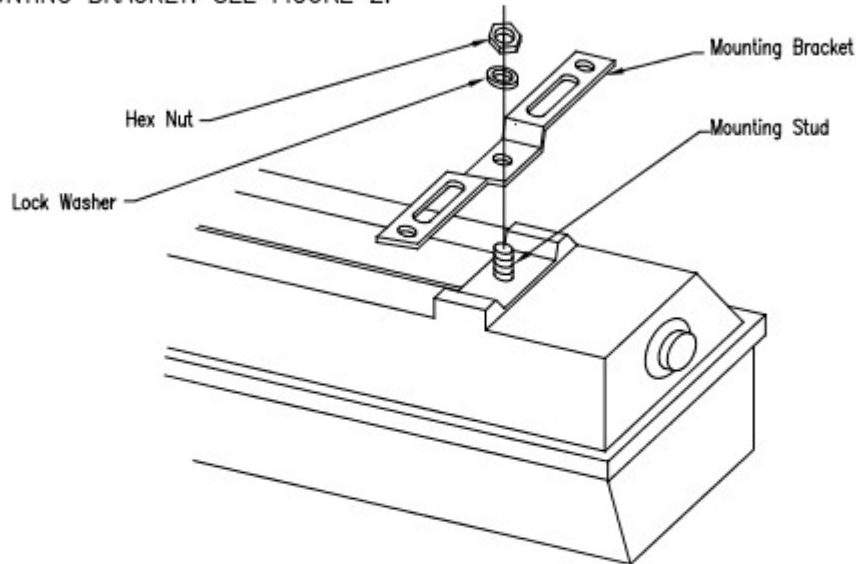

Figure 1
2. POSITION MOUNTING BRACKET OVER MOUNTING STUD OF FIXTURE. SEE FIGURE 1.
3. PLACE LOCK WASHER OVER MOUNTING BRACKET. SEE FIGURE 1
4. SECURE MOUNTING BRACKET WITH HEX NUT. SEE FIGURE 1.
5. SECURE FIXTURE TO SUPPORT STRUCTURE AT THE MOUNTING HOLES (2) ON THE .